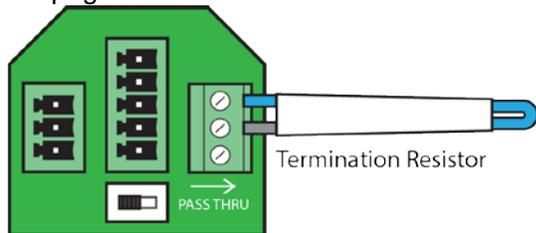

Figure 7. Pre-installed termination resistor should remain installed in only the last fixture of each run.
7. Ensure the termination resistor is installed into the last luminaire in each run as shown in Figure 7. **Note:** Remove and discard pre-installed termination resistor from all other fixtures.